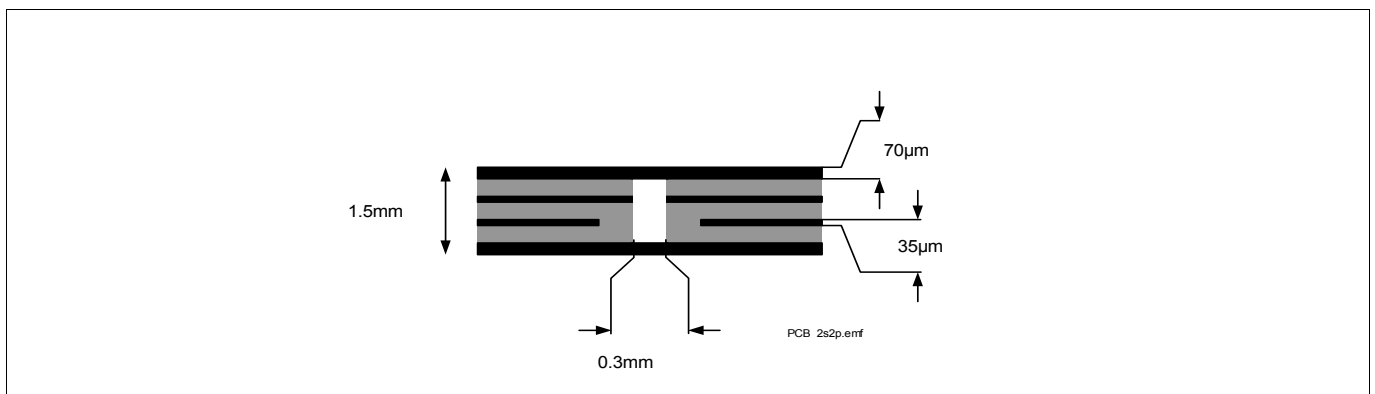

Figure 4 2s2p PCB Cross Section
- 2) Specified  $R_{thja}$  value is according to JEDEC JESD51-2,-5,-7 at natural convection on FR4 2s2p board; The product (chip + package) was simulated on a 76.4 x 114.3 x 1.5 mm board with 2 inner copper layers (2 x 70  $\mu\text{m}$  Cu, 2 x 35  $\mu\text{m}$  Cu). Where applicable, a thermal via array under the exposed pad contacts the first inner copper layer. Please refer to Figure 4.